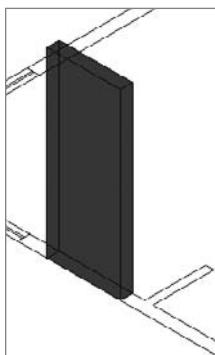

FIGURE 16.16 The first door operand created in place
- At the **Specify height or [2Point]:** prompt, enter **7'6" (2286.)**. The box appears in place (see Figure 16.16).